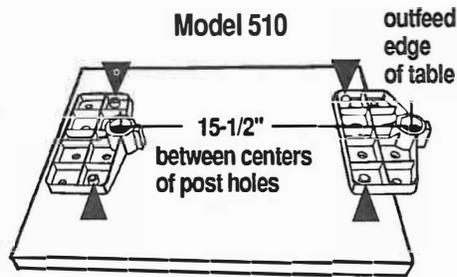

Fig. A-15
**15.** See Figs. A-15 and A-16. Place the table supports (34) on the table according to the Mark V model you have.